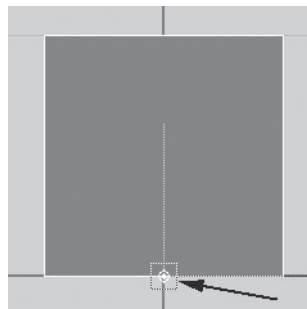

FIGURE 3.56 Sack's pivot moved to the origin.
17. Holding down the X key on the keyboard, move the pivot point to the bottom of the sack, at the origin of the axes, as shown in Figure 3.56.